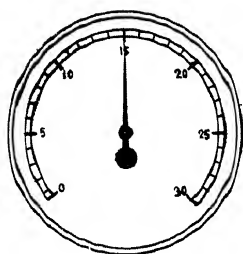

Fig. 12.—STARTER VACUUM
1. Starter Vacuum Test (Fig. 12)